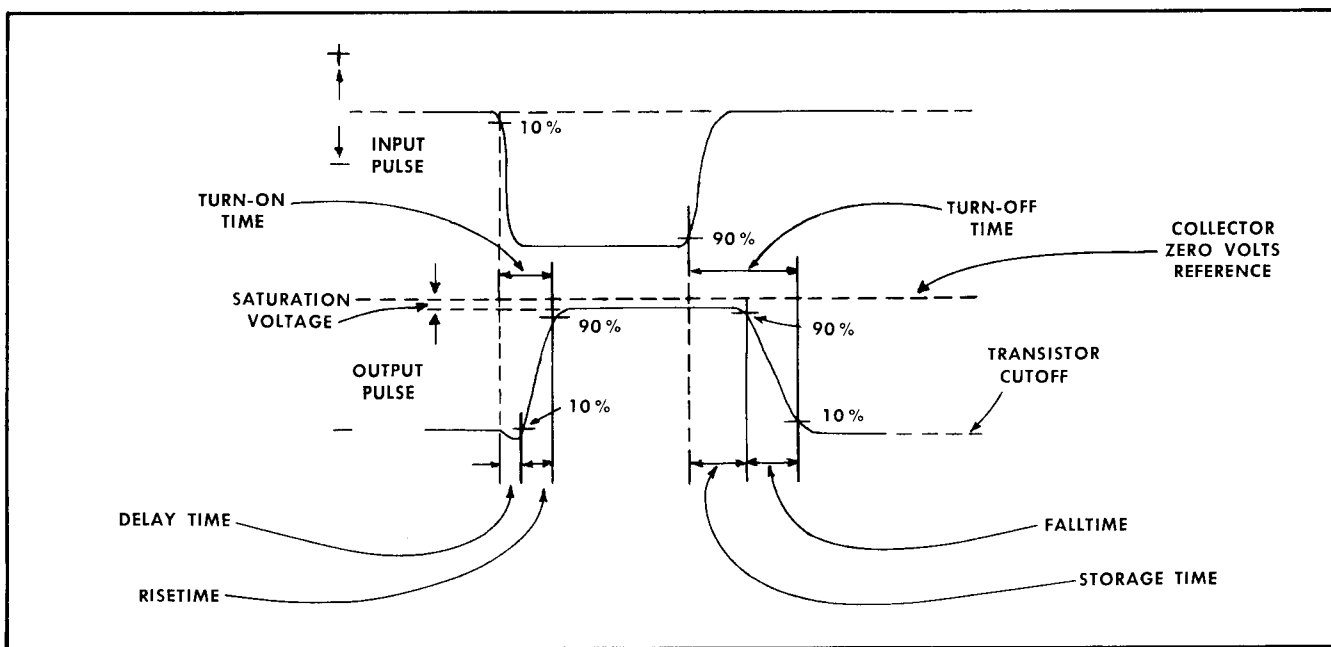

Fig. 2-2. Transistor switching characteristics.
**Transistor Switching Terms (See Fig. 2-2)**